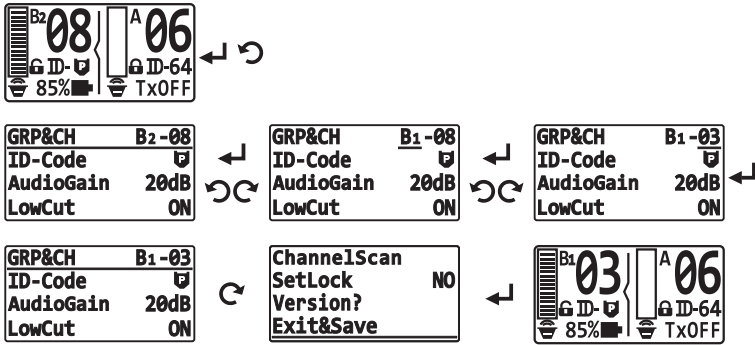

Fig. 19
- (A) Press once to activate parameter setup.
- (B) Turn and select a status bar. Press once to activate parameter setting.
- (C) Turn right or left to one of the programmed parameter value.
- (D) To save changes, turn and locate Exit & Save status bar, press once to save and return to home screen.
3. Setting GRP & CH, see Fig. 19